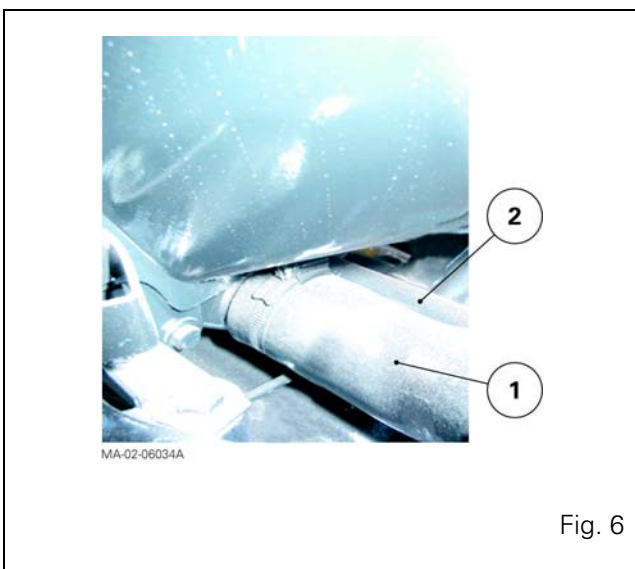

Fig. 6
- 13.** Disconnect the lower radiator hose (1) and the hose (2) linking the expansion tank to the base of the radiator (Fig. 6).